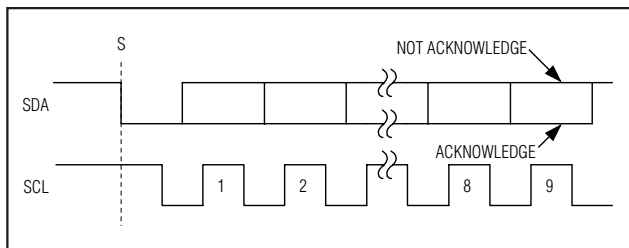

Figure 6. Acknowledge Bits
Data transfers are acknowledged with an acknowledge bit (A) or a not-acknowledge bit (\bar{A}). Both the master and the MAX1136–MAX1139 (slave) generate acknowledge bits. To generate an acknowledge, the receiving device must pull SDA low before the rising edge of the acknowledge-related clock pulse (ninth pulse) and keep it low during the high period of the clock pulse (Figure 6). To generate a not-acknowledge, the receiver allows SDA to be pulled high before the rising edge of the acknowledge-related clock pulse and leaves SDA high during the high period of the clock pulse. Monitoring the acknowledge bits allows for detection of unsuccessful data transfers. An unsuccessful data transfer happens if a receiving device is busy or if a system fault has occurred. In the event of an unsuccessful data transfer the bus master should reattempt communication at a later time.